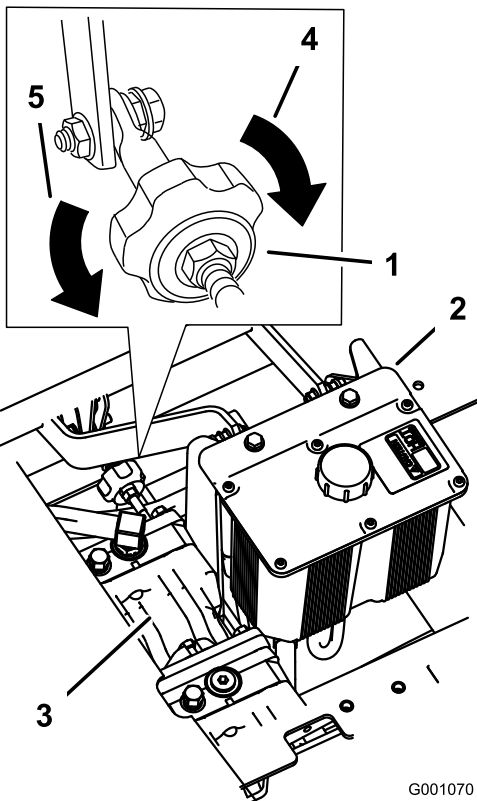

Figure 54
4. To make the machine go right, turn the knob towards the rightside of the machine. Refer to Figure 54.
5. To make the machine go left, turn the knob towards the leftside of the machine. Refer to Figure 54.